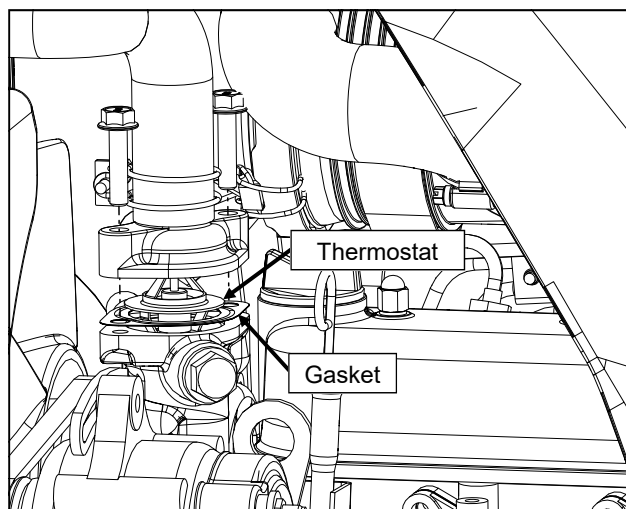

Figure 20.6 (Remove Thermostat)
- 20.6 Unbolt the thermostat housing and remove the thermostat and gasket. See Figure 20.6. Save the thermostat for re-installation, but discard the gasket and bolts.